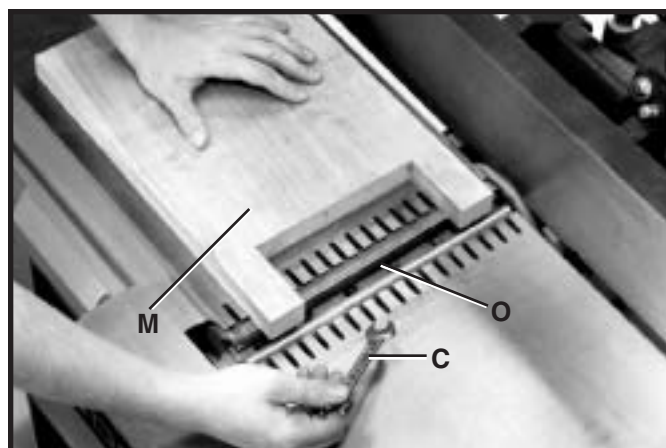

Fig. 48
9. Construct a "U" shaped block out of hardwood similar to the one shown at (M) Fig. 48, and place this block on the rear table over the cutterhead, as shown. Using wrench (C), loosen knife locking screws by turning them clockwise. The knife (O) will lift up and contact the ends of the gage block (M). The knives are adjusted correctly when the cutting edge of the knife contacts the gage block when the knife is at its highest point. When you are certain the knife is adjusted properly, tighten the knife locking screws by turning them counterclockwise.